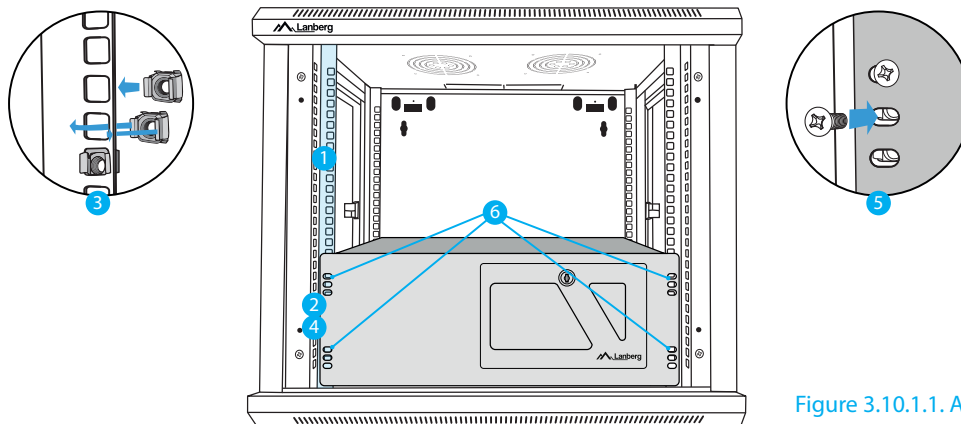

Figure 3.10.1.1. Assembling in rack
1. Choose 12 free slots, in the row, each with the height of 1U, on vertical mounting rails of the ICT / 19" rack cabinet – Figure 3.10.1.1.
2. Use the server chassis as the reference, to match correctly the 12 holes on the vertical mounting rails, into which the M6 bolts have to be inserted – Figure 3.10.1.1.
3. Insert metal baskets, bent at the end, with mounting basis inside them, into the 12 designated holes (from the point no. (2)), in such way, so the bent ends of metal baskets will slide, click into and grab the designated holes on the vertical mounting rails, from the outside – Figure 3.10.1.1.
4. Again use the server chassis as a reference (just like in the point no. (2)) – Figure 3.10.1.1.
5. Insert on the bolts their corresponding nuts (if there are any) – Figure 3.10.1.1.
6. Insert and firmly screw the 12 bolts, from the outside, through the selected holes (point no. 2) of the vertical mounting rails. It is obligatory to remember and have those elements correctly screwed to the mounting basis of M6 bolt – Figure 3.10.1.1.